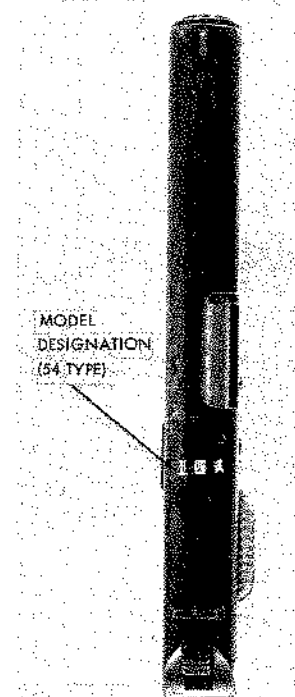

Figure 9. Type 54 pistol, top view.
b. The Soviet and Polish produced pistols have odd slide serrations—a series of alternating wide and narrow vertical cuts—while the PRC Types 51 and 54 pistols (fig 8), the Hungarian 48M, and the Yugoslav M54 have uniform narrow vertical cuts. The pistols within this latter group can be further differentiated by the markings 五一式 or 五四式 on the slide top or receiver on the PRC Types 51 and 54 pistols (fig 9), the